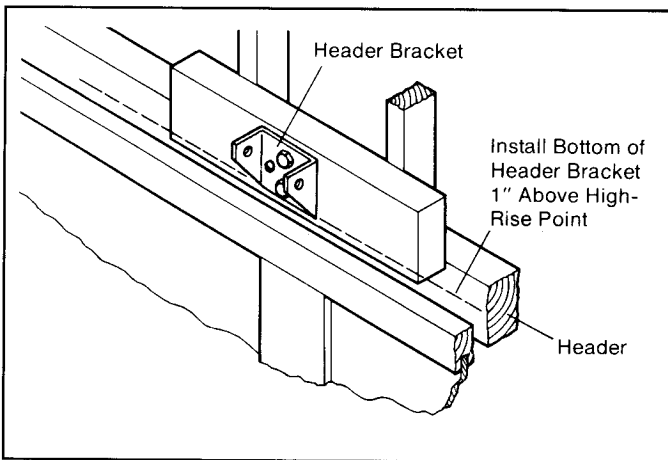
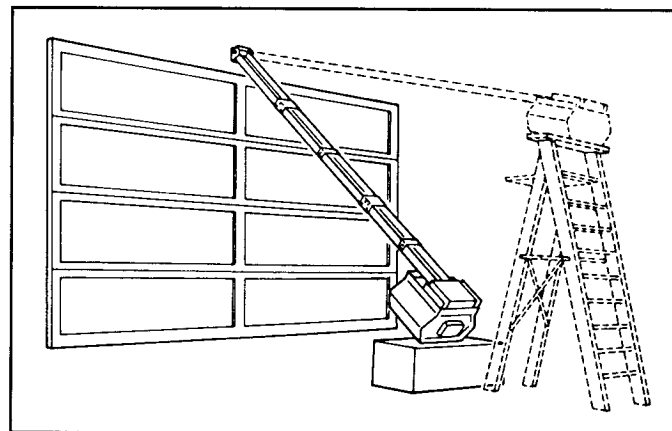

Figure 10: Header Bracket.
Figure 11. Mounting Operator On Header Bracket.
See Figure 10, Steps 15 through 18, Page 7.
Step 17: If high-rise point is above door header, install 2"x6" mounting board at this point. (See Figure 10.)
Step 18: Use lag screws to mount bottom of header bracket one inch (1") above high-rise point on center line of header. (Figure 10.)
Step 19: Place the assembled operator on the floor with the exposed end of channel facing the door. Put the operator head on the empty carton (See Figure 11). Next, raise the end of the channel and insert it in the header bracket (Figure 10). Secure the channel in the bracket using the bolt and keps nut supplied. Note: Do not tighten the keps nut on bolt until the power head has been mounted.
When the door is equipped with a torsion spring, the spring extends inward above the door to a distance which creates an angle that makes it impossible to rest the operator head on the floor as shown in Figure 11. For such installation, place the power head on a ladder so that the channel will clear the torsion spring and reach the header bracket.
Step 20: Raise the head end of the operator and rest it on a ladder about 8' above the floor so that the operator will not obstruct the door when it is opened. See Figure 11. Next, raise garage door to the fully open position.